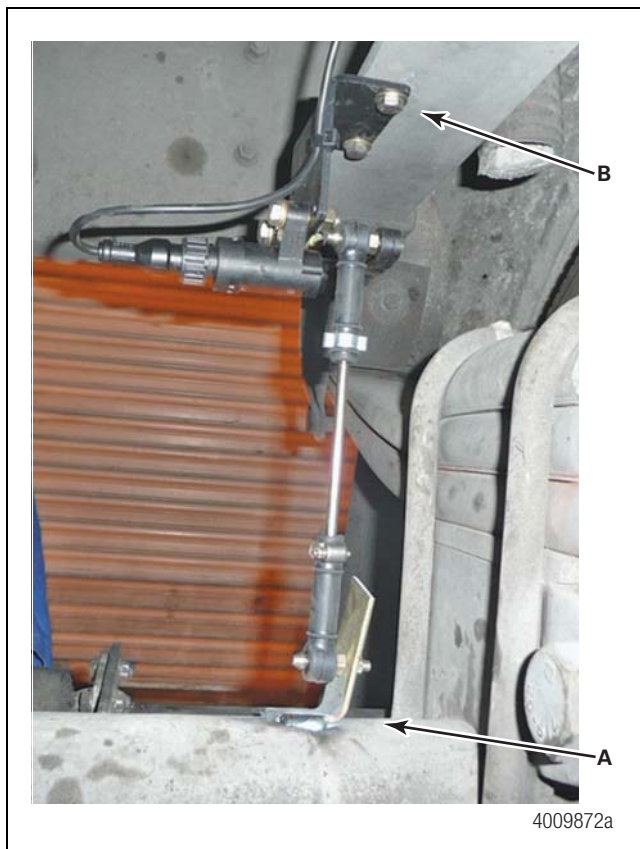

Figure 28
1. With the trailer **unloaded**, measure from the top of the axle tub (A) to a fixed point (B) on the underside of the trailer. Note the distance. Figure 28.